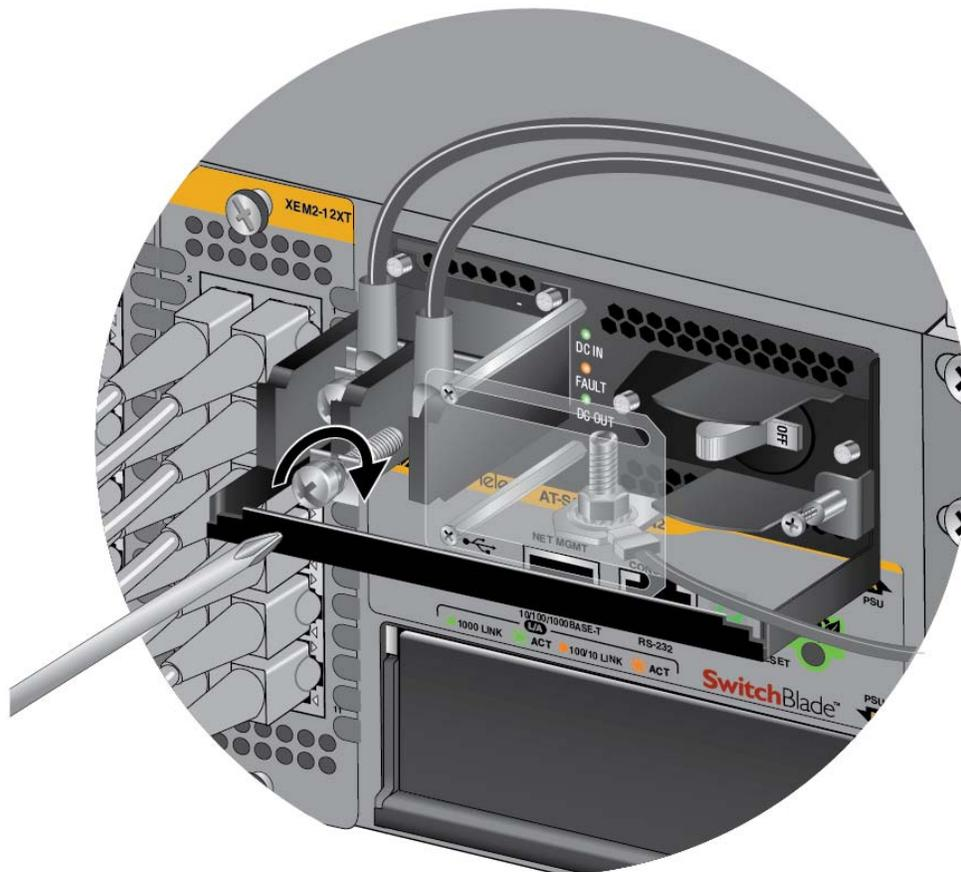

Figure 84. Connecting the Negative (-) Power Wire with a Straight Terminal
7. With a #3 Phillips-head screwdriver, connect the negative (-) power lead wire to the negative terminal on the power supply, with the remaining terminal screw removed in step 5. The negative terminal is on the right. You may attach the terminals with the wires either above or below the terminal block. Figure 84 on page 136 shows the wires above the terminal block.